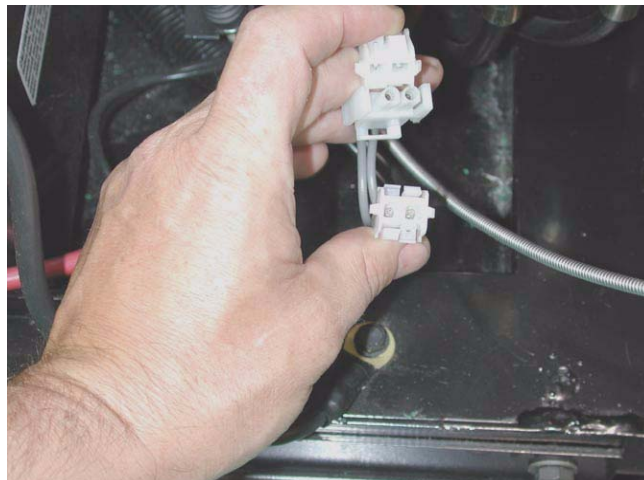

Figure 2.4
- 2.4. Install one adaptor from the service kit as an interface connector between the harness and the accessory. See Figure 2.4.